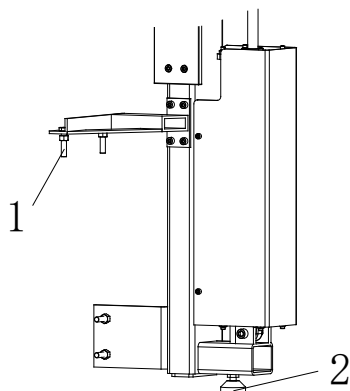

图 7
- 2) Fix the column on the body with four screw1 and adjust the support 2 to a suitable location; (Fig 7)